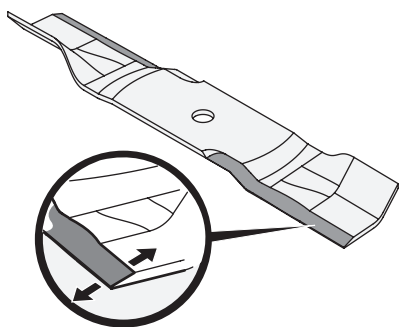

Figure 65
3. To properly sharpen the cutting blades, remove equal amounts of metal from both ends of the blades along the cutting edges, parallel to the trailing edge, at a 25°-30° angle. Always grind each cutting blade edge equally to maintain proper blade balance (Figure 65).